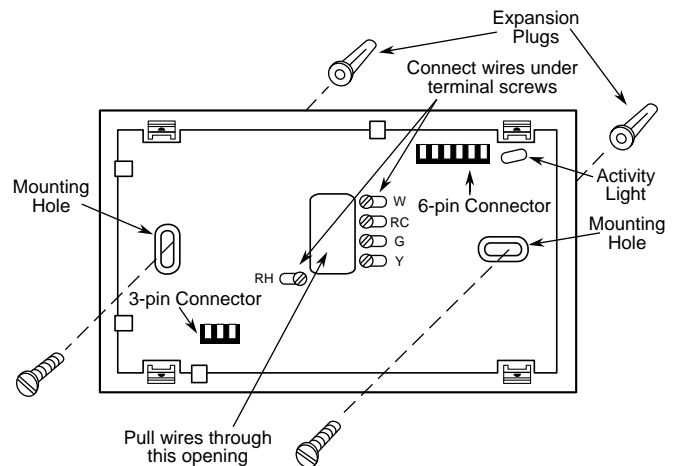

Figure 3. Subbase
3. Connect wires beneath terminal screws on subbase using appropriate wiring schematic (see figs. 3 through 8).
6. Fasten subbase loosely to wall, as shown in fig. 3, using two mounting screws. Place a level against bottom of subbase, adjust until level, and then tighten screws. (Leveling is for appearance only and will not affect thermostat operation.) If you are using existing mounting holes, or if holes drilled are too large and do not allow you to tighten subbase snugly, use plastic expansion plugs to secure subbase.